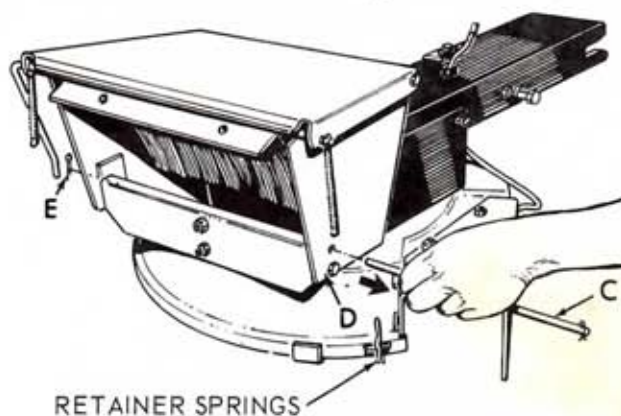
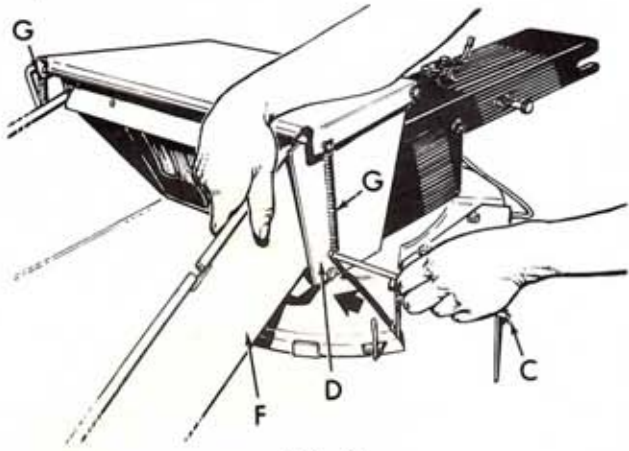
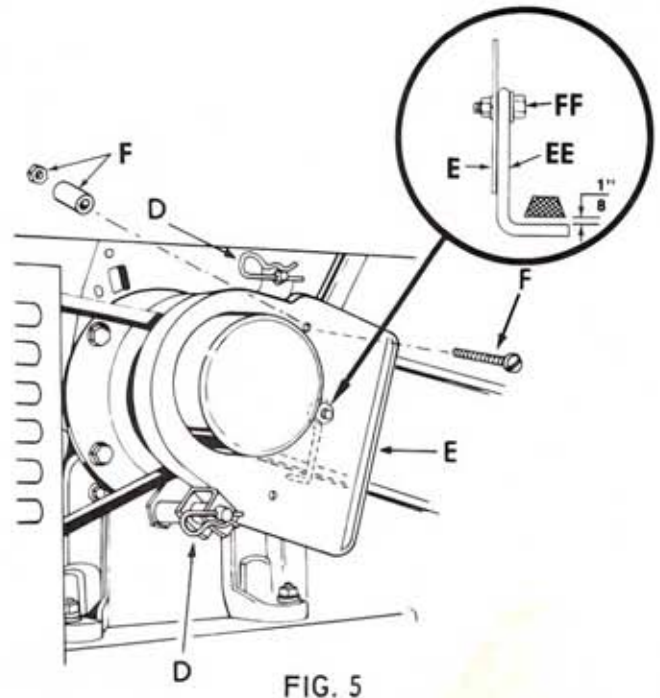
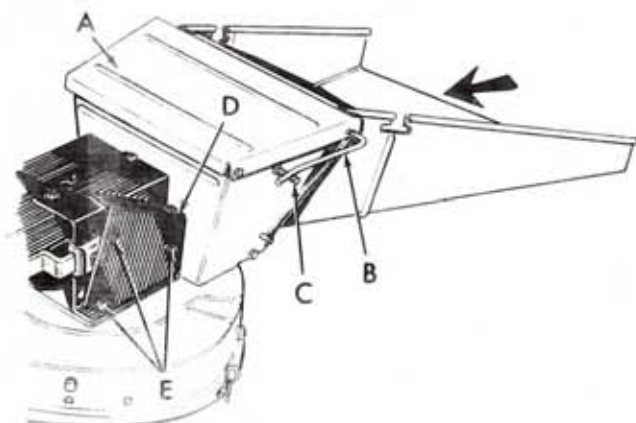

FIG. 2
FIG. 3
FIG. 5
FIG. 17
4. Refer to Fig. 2. Remove partially spread cotter pin (E) from end of rod (C) and withdraw rod from hopper wrapper (D). Leave spread cotter pin in place on other end of rod (C).
5. Refer to Fig. 3. Position narrow end of ramp (F) inside hopper (D). Align holes in sides of hopper (D) with hinge on bottom of ramp (F). Insert end of rod (C) into loose end of spring (G), then into hole on side of hopper, through ramp hinge and out the other side of hopper (D). Pull loose end of second spring (G) (on far side of hopper) over the end of rod (C). Secure spring with cotter pin (E, Fig. 2).
2. Refer to Fig. 5 (only on 1968 and newer models). Pull the 2 retainer springs (D) holding belt guard (E) to tractor. Remove belt guard (E) from engine. Remove bolt, bushing and nut (F) from belt guard (E). Install belt guide (EE) to belt guard (E) using bolt (FF), washer, lockwasher and nut. NOTE: Place bolt in UPPER "Cutter Bar Mower" hole of belt guard (E). Position belt guide (EE) to clear bottom of V-Belt (approx. 1/8") when belt tightener lever is engaged.
7. Replace belt guard removed in step 2 and secure with two retainer springs. See Fig 5.
For ease in shredding or bagging leaves, the shredder ramp may be left in the down position (see Fig. 3) and the leaves raked up the ramp into the shredder. Refer to Fig. 17. Lift hopper cover (A) and rest deflector pivot handle (B) on stud (C). This raises rubber deflector strips in hopper to allow leaves to be raked into hopper.
Disengage belt tightener lever on tractor. Remove two retainer springs (D, Fig. 5) holding belt guard (E) to tractor and remove guard. Remove bolts, lockwashers and split spacers (E, Fig. 17) and remove belt guard (D). Slip V-belt off both sheaves. Install new V-belt and replace guards (E, Fig. 5 and D, Fig. 17). Adjust belt tension, see "belt adjustment".